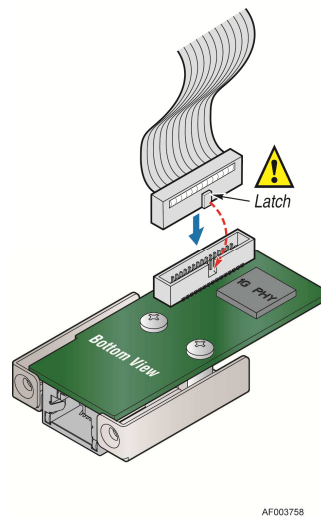

Figure 5: Attaching the Cable to the Intel® Dedicated Server Management NIC Module
4. Attach the cable to the cable connector on the Intel® Dedicated Server Management NIC module as shown in Figure 5.